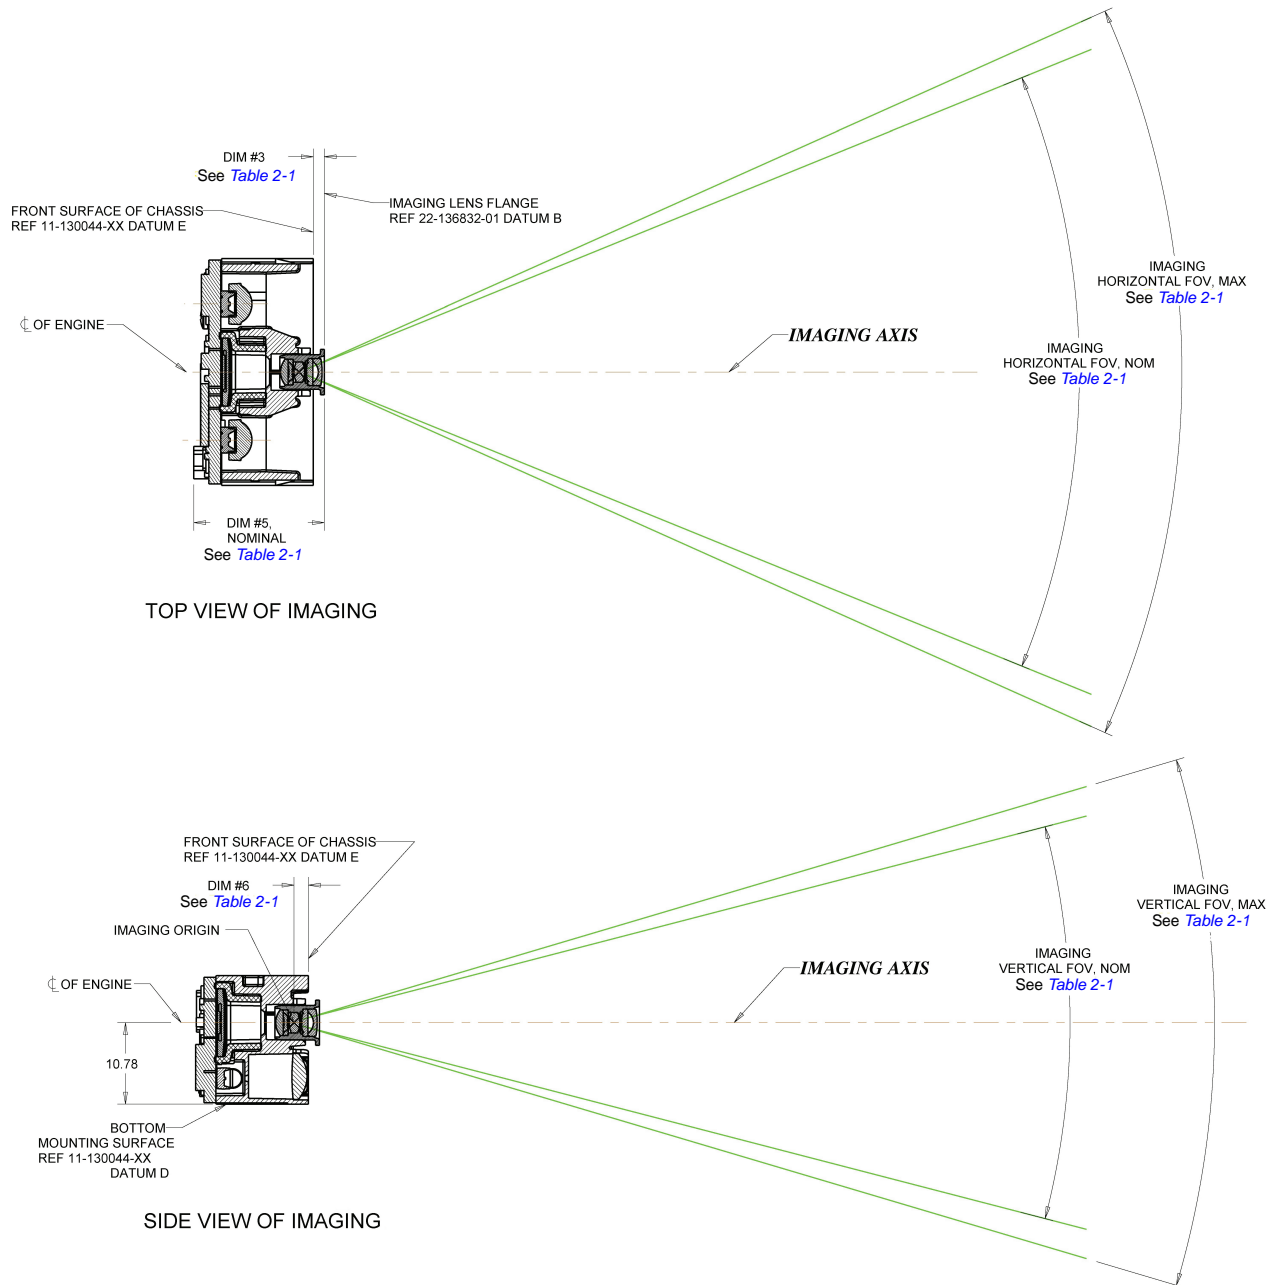
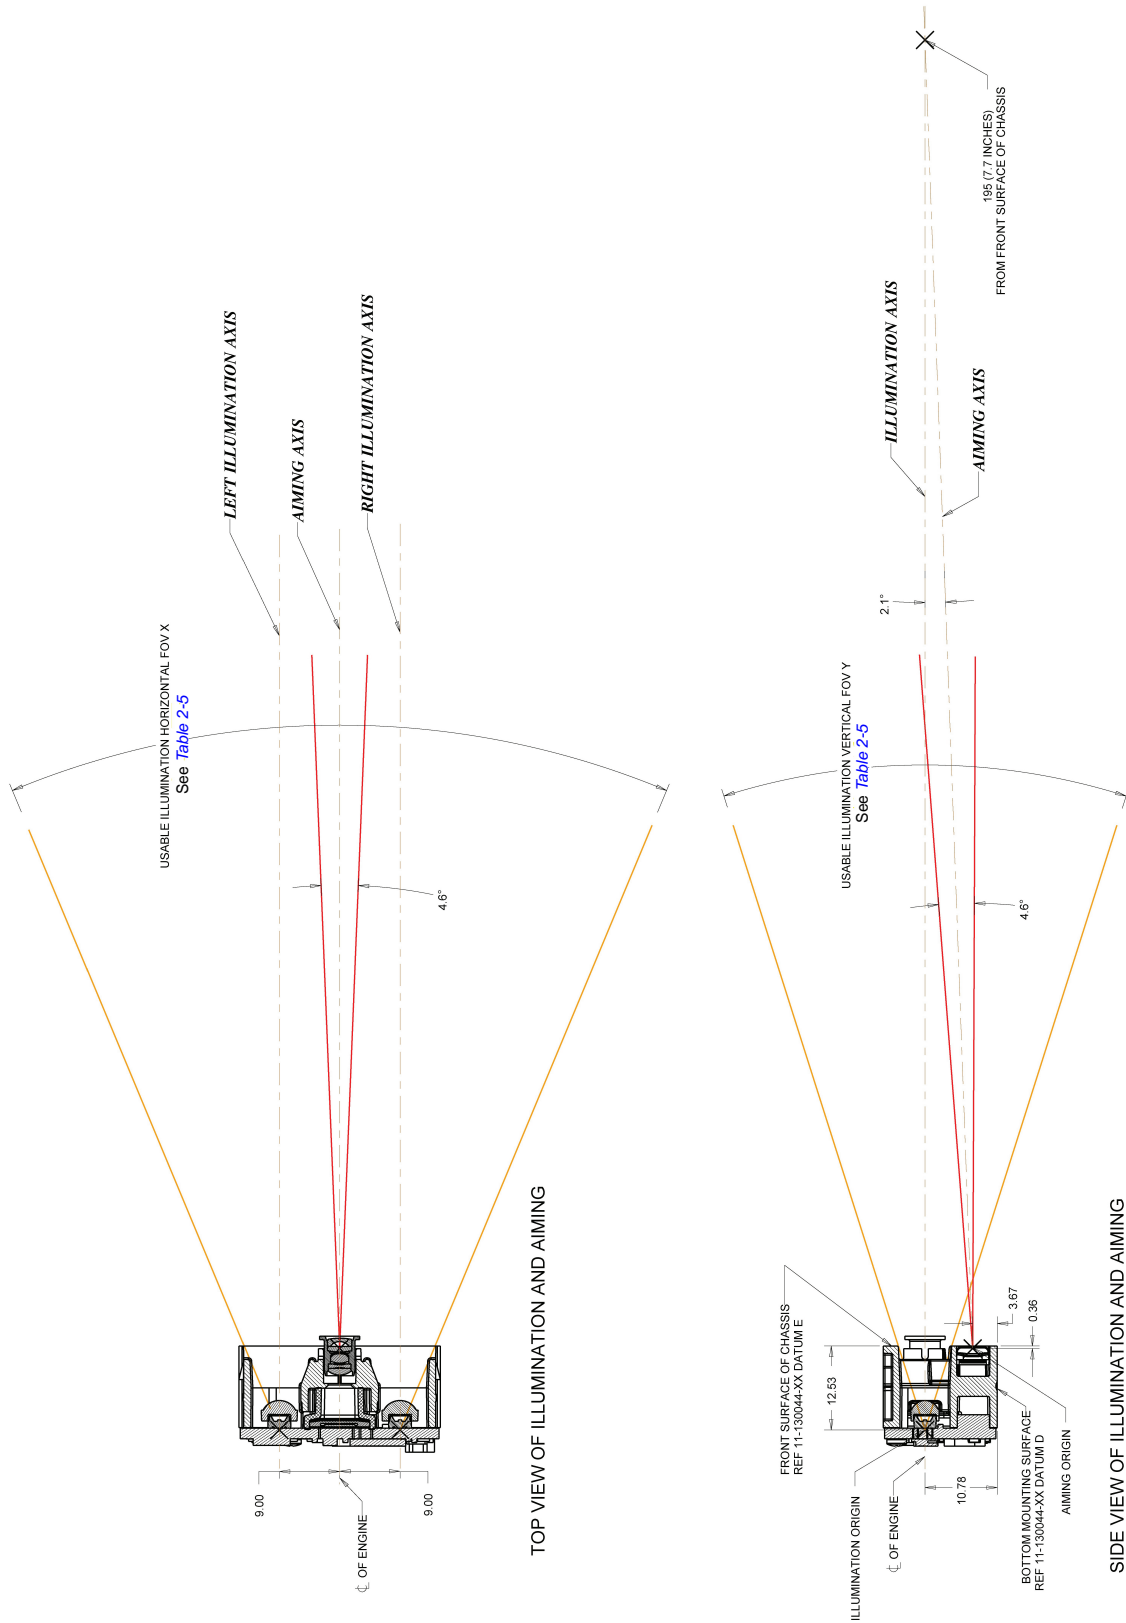

Figure 2-2 SE3300 Optical Path
Figure 2-3 SE3300 Illumination and Aiming Path
Design the engine's housing so that internal reflections from the aiming and illumination system are not directed back toward the engine. The reflections from the window or housing can cause problems, and for particular window tilt angles, these reflections can bounce off the top or bottom of the housing and reach the engine. Also, keep all housing elements outside the imaging field of view and usable illumination volume (see Figure 2-2 on page 2-7 and Figure 2-3 on page 2-8). Avoid any bright objects around the engine that can be reflected by a tilted window into the engine field of view and appear in a captured image.
- Ensure the window size is large enough to cover the imaging field of view and usable illumination volume specified in Figure 2-2 and Figure 2-3 plus mounting tolerances of the window relative to the engine.